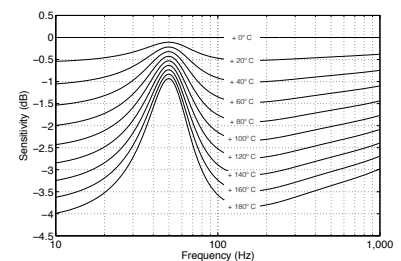
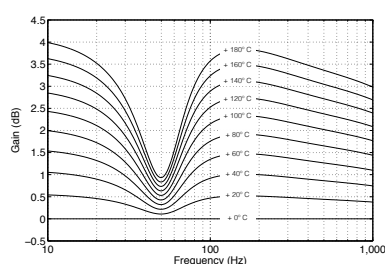

Figure 20.4: Sensitivity of a woofer vs. the *change* in temperature of its voice coil.
Figure 20.5: Magnitude responses of the compensating filter for a woofer vs. the temperature of its voice coil.
The total result is shown for various temperature differences in Figure 20.4. Notice that these plots show the change in magnitude response of the driver with *changes* in temperature. So, the curve at the top is the change in the woofer's magnitude response (which is 0 dB at all frequencies – in other words no change) when the loudspeaker is playing at the same temperature at which it was measured (let's say, 20°C or room temperature). As the temperature of the voice coil increases above that temperature, you can see that you lose output in two frequency bands on either side of a “bump” in the response – that bump is at the resonant frequency of the loudspeaker driver.
Interestingly, everything I said above is true for every moving coil loudspeaker. So, if you're the kind of person who believes that the only "proper" loudspeaker is one where you have nothing but a loudspeaker driver (in a cabinet of any kind, or not) and an amplifier – and no active filtering, then you'll have to live with the kind of unpredictable behaviour that you see above. However, since a Beolab 90 "knows" the temperature of the voice coil of its loudspeaker drivers, and since it has been programmed with the curves like the one shown in Figure 20.4, we can actively linearise its response, making it much more predictable.
In essence all we need to do is to take Figure 20.4, flip it upside down and make a filter that "undoes" the effect of temperature on the loudspeaker's response. For example, if the woofer's voice coil gets 160°C above room temperature (where we originally measured it), it drops 3.2 dB at 20 Hz, the processor knows this and adds 3.2 dB at 20 Hz. In order to do this, the processing of the Beolab 90 includes a set of filters (one for each driver) whose response varies in time with the temperatures of the the drivers. The temperature-dependent filters for the front woofer are shown in Figure 20.5.
- This particular filter shown in Figure 20.5 should only be applied to the appropriate loudspeaker driver. The other woofers and the other drivers have different behaviours and should be processed with their own correction curves. In other words, this filtering can only be done because the Beolab 90 is an active loudspeaker with independent filtering for each of the 18 loudspeaker drivers.